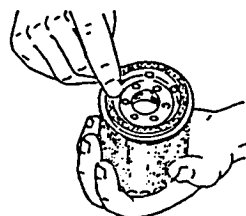

Figure 18
- Lubricate the new oil filter at gasket lightly with oil. (Figure 18)